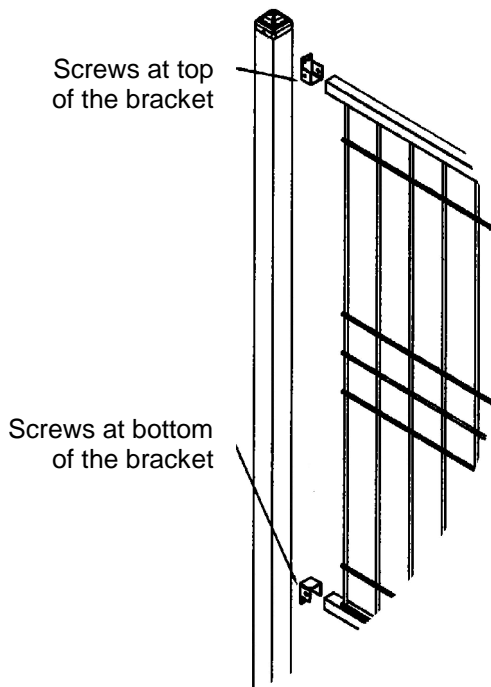

Figure 1
5. After all of the posts are set firmly, attach a bracket near the top of each post using 2 self-drilling hex-head screws. (See Figure 1). The rails will be level, so adjust the bracket height to take into account any space under the fence due to the slope of the ground. Place a panel of fence into these brackets.
6. Install the bottom brackets onto the posts facing downward (as shown in Figure 1) around the bottom horizontal rail of the section. When the top and bottom brackets on a post are installed facing opposite directions, there is no need to use screws into the rails. Screws can be added if desired, however.